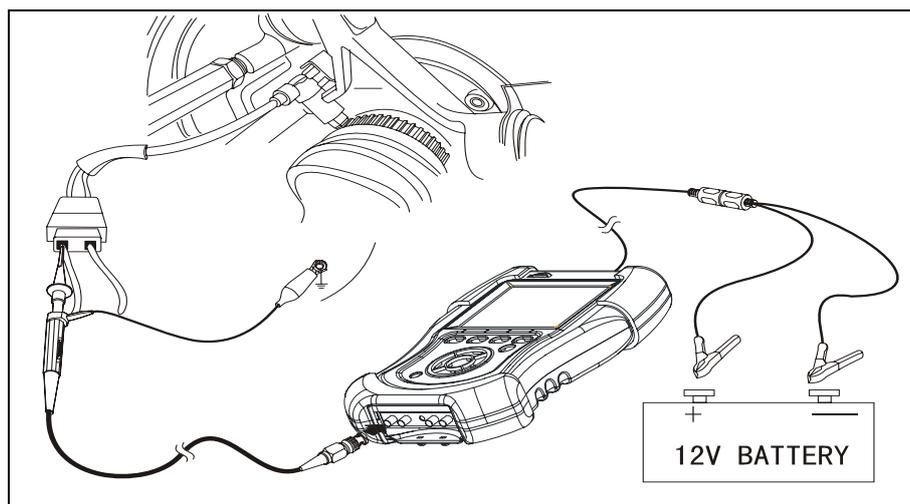

Fig. 3-17
When connecting KT600 to extension line for power supply, choose battery or cigar igniter as power supply according to the battery position of vehicle mode tested. All connecting diagrams in this users manual take power supply by battery as example. If choosing cigar igniter connector, confirm that cigar igniter has 12V battery voltage first. Connect test probe to Channel 1 (CH1 port), and then connect the small alligator clip on test probe to the negative of battery or grounding, pierce test probe into the signal line of anti-lock braking speed sensor. Connecting diagram is shown as Fig.3-17.
1. Connect equipment according to Fig.3-17, switch on power supply switch of KT600;